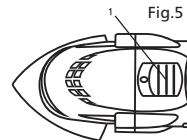

Fig.5
1. To turn the tool ON, slide the ON/OFF switch (1) toward the front of the tool (Fig. 5).
- Place the tool with the saw blade (3) lightly touching the surface of the tile and the cutting teeth NOT touching the surface to be cut.
- Set the speed to the fastest speed and turn the tool ON (Fig. 5 & 6).
- Place the saw blade (2) near the floor surface in the middle of one of the cutting lines.
- Set the tool speed at a medium speed and turn the tool ON (Fig. 5 & 6).
- Place the corner edge of the saw blade (2) near the drywall in the middle of one of the cutting lines.
- Set the speed to the highest speed and turn the tool ON (Fig. 5 & 6).
4. Turn the switch ON as outlined in Fig. 5.
2. Set the speed control wheel to #4 and turn the switch ON as outlined in Fig. 5 & 6.